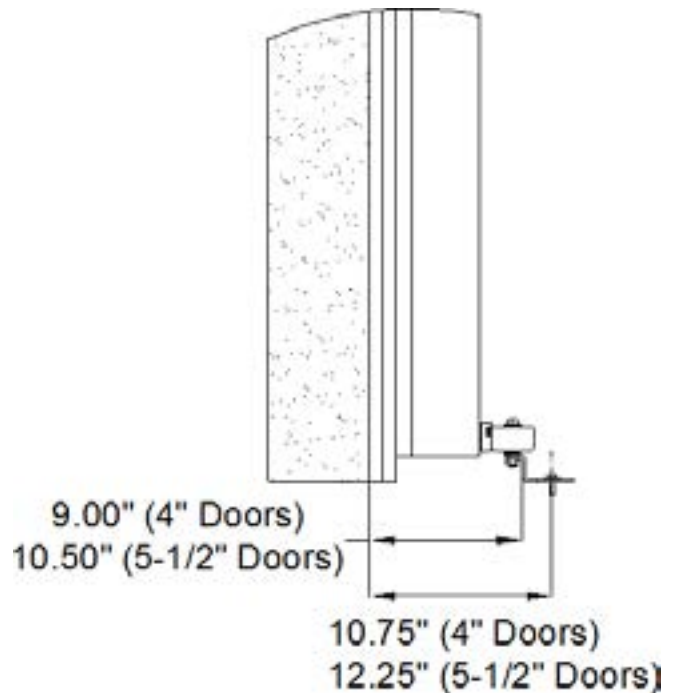

Figure 20: Trail Edge Floor Roller
- 3 Refer to the reference dimensions given in figures 20 and 21. At one of the door's trailing edges, position one floor roller on the floor, directly in front of face frame ( approx. 9.0" From wall to vertical face of floor roller bracket), so that roller causes panel to be snug against the gaskets. Drill holes in floor so that bolts will be in the center of the two slotted bolt guide holes to allow for adjustments. Attach using 3/8" anchor bolts.